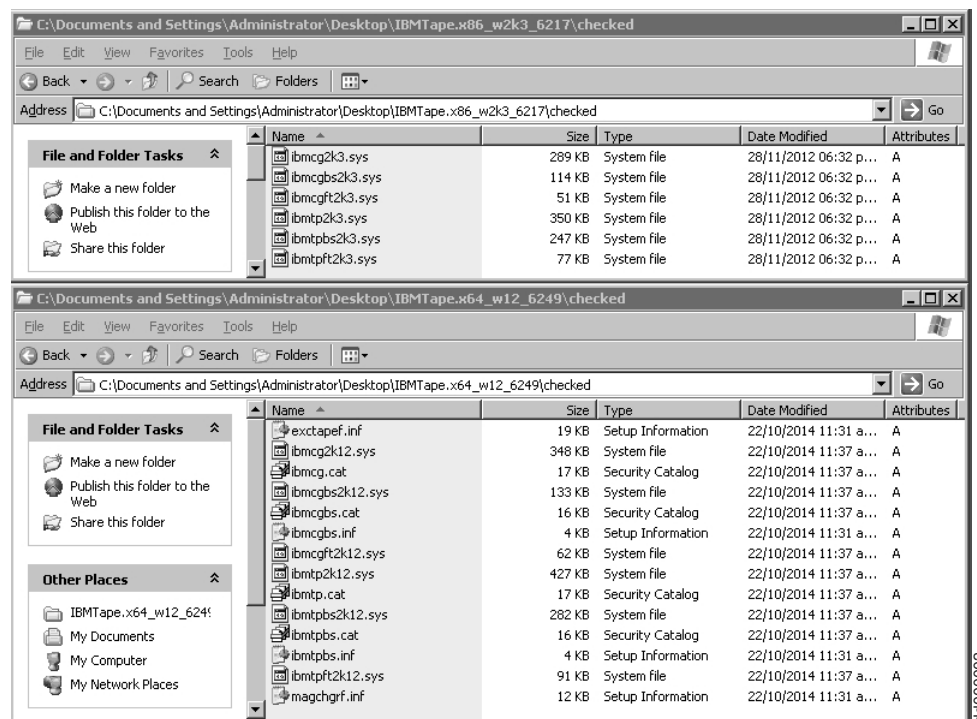

Figure 16. Checked folder
- *yyy* = **2k3** for Windows Server 2003, **2k8** for Windows Server 2008, or **2k12** for Windows Server 2012. Refer to Figure 16
- *yyy* = **2k** for Windows 2000, or **2k3** for Windows Server 2003, or **2k8** for Windows Server 2008. Refer to Figure 16 on page 155.